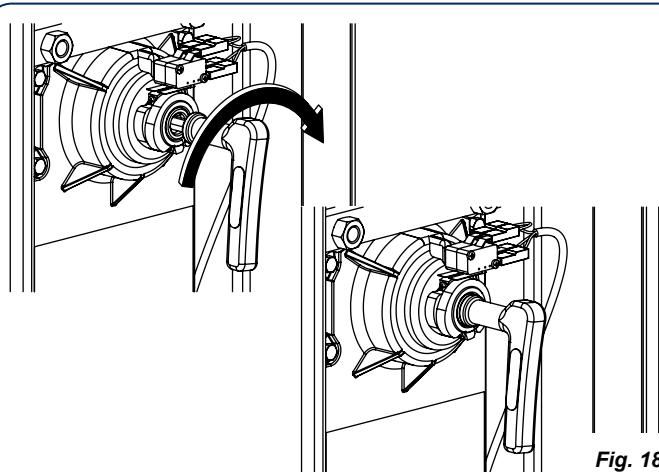

Fig. 18
3. Insert the release key, fig. 18, ref. ①, in the corresponding opening.
4. Turn the release key clockwise until it rests against the shaft, fig. 18.